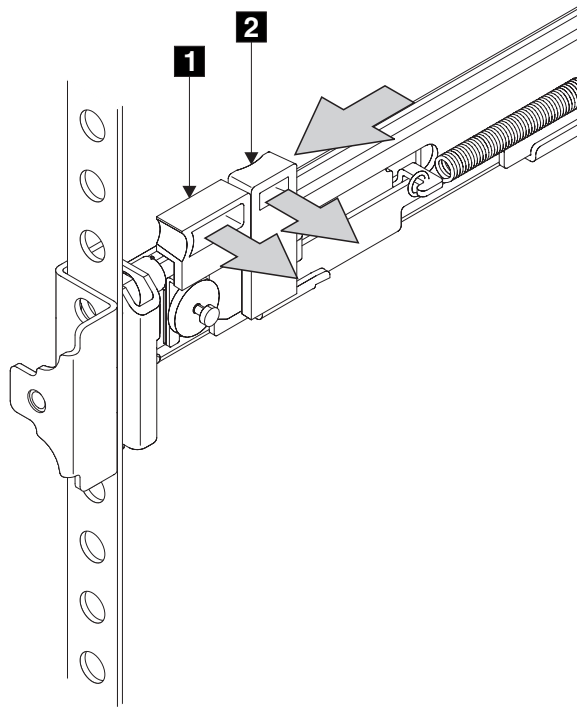

Figure 50. Closing the latch-lock carrier assembly
8. Push the latch lock **2** (Figure 50 on page 67) away from the rail to release the carrier. The latch-lock carrier slides toward the front of the rack and the locating pins project through the holes that are in the front flange and in the front rail bracket.